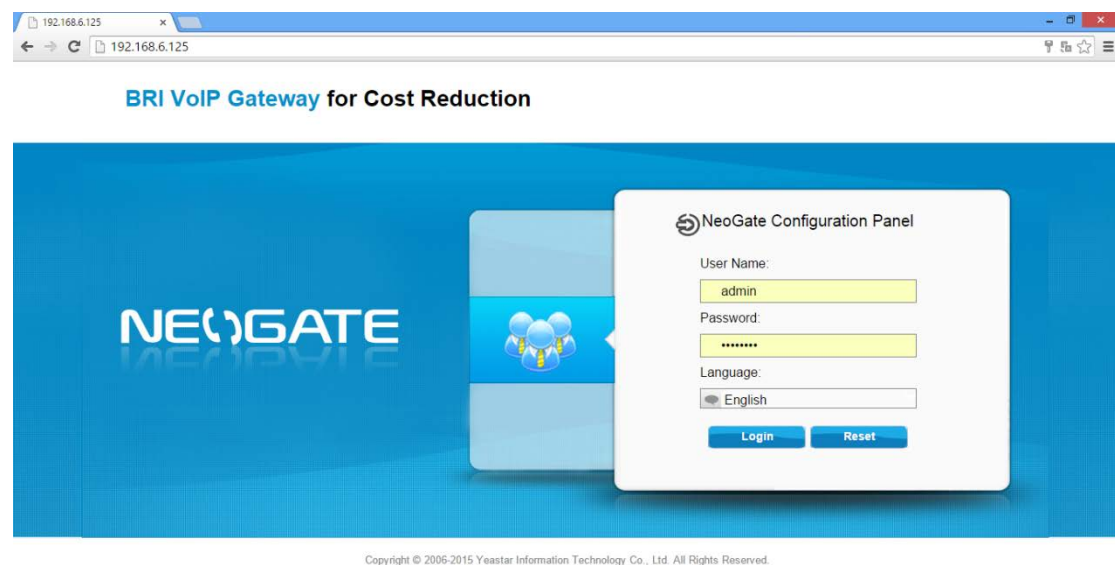

Figure 4-1 TB200/400 Web Configuration Panel Login Page
1. Start the browser on PC. In the address bar, enter the IP address, click “Enter” button and then you can see the Web Configuration Panel login page (see Figure 4-1).